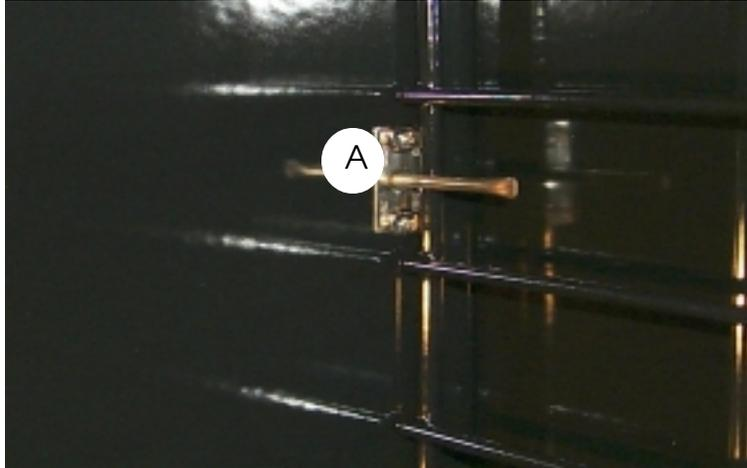

Figure 19-1
Figure 19-1 shows the location of the sensor or temperature probe (A) inside the oven cell